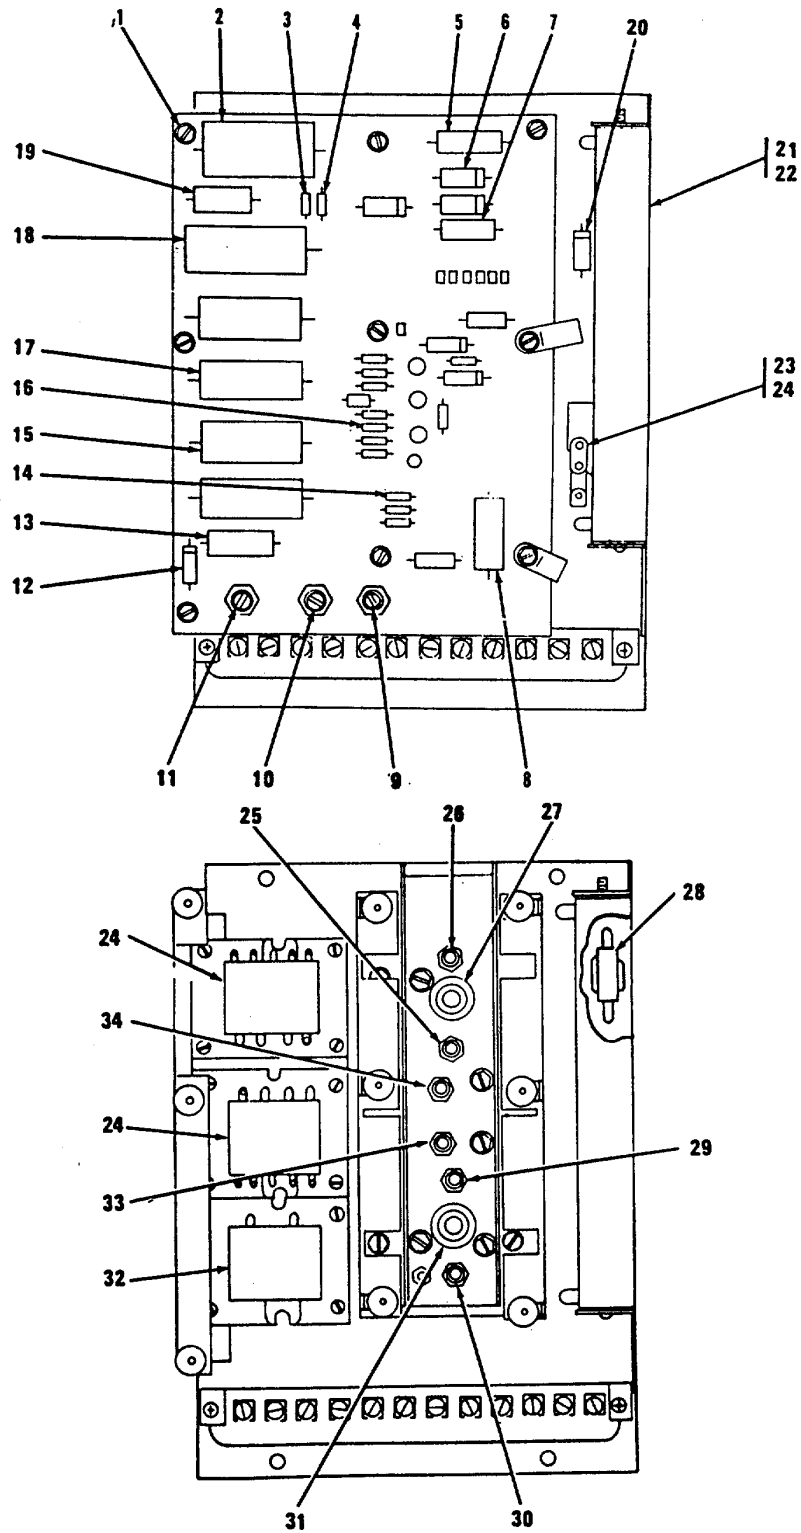

Figure 4-8. Voltage Regulator
- c. Testing of Replaceable Components. Refer to figures 4-8 and 4-9 and check the following components as indicated.
- (1) Check diodes CR8 (29), CR9 (26), CR13 (30), CR14 (25), CR15 (33), and CR16 (34) by disconnecting one end of each diode and connecting an ohmmeter (set at Rx100) across the diode. Note reading. Reverse ohmmeter leads to the diode and not reading again. A good diode will read high resistance one way and low resistance the other way. A shorted diode will read full scale both ways and an open diode will read infinity (no reading) in either direction. Replace shorted or open diodes. Reconnect leads to good diodes.
- (2) Check sensing transformers T1 and T2 (24) by applying inputs of 120 volts, 208 volts, 240 volts, 416 volts, 80 volts, and 600 volts. Check with a multimeter for 31 volts across diodes CR5 and CR2. Check for 31 volts across diodes CR6 and CR3. Check for 31 volts across diodes CR4 and CR1. If these voltages are not present for all inputs, the sensing transformers may be defective and must be replaced.
LEGEND FOR FIGURE 4-8